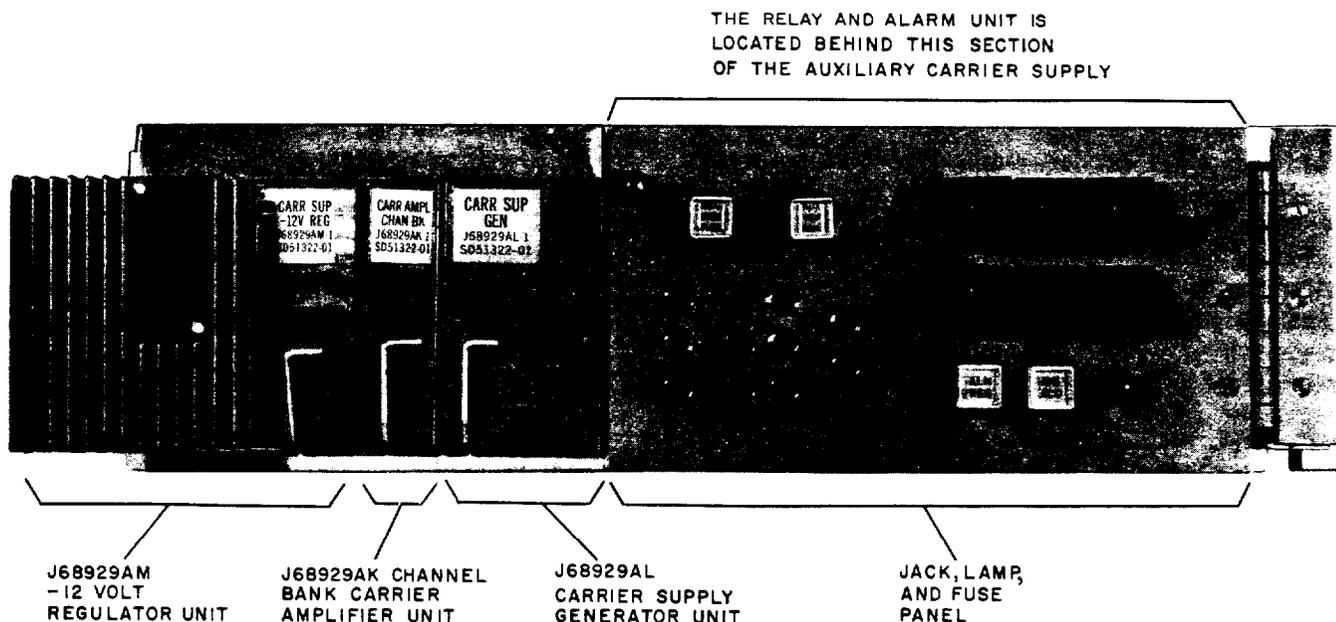

Fig. 4—A6 Auxiliary Carrier Supply
1.08 The A6 auxiliary carrier supply (Fig. 4) consists of the following items which are plug-in mounted in the J68929AP shelf.